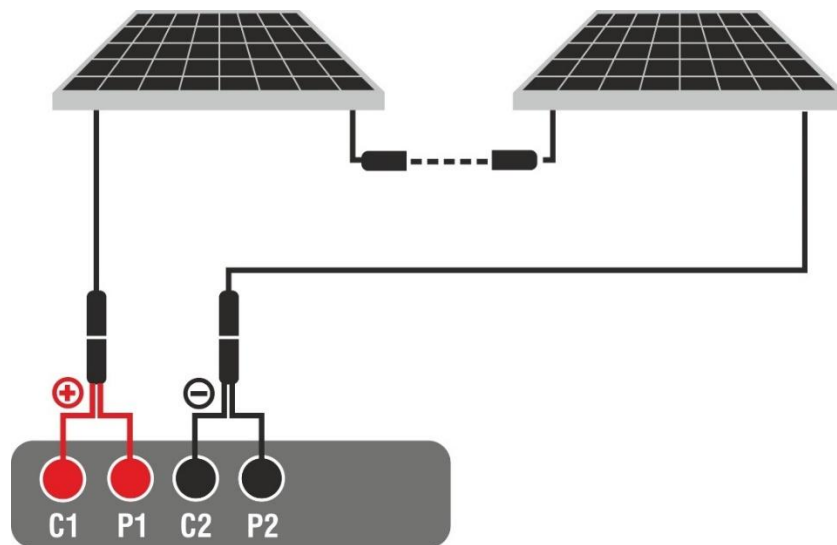

Fig. 34: Connection for I-V test without remote unit SOLAR03
3. Connect the instrument to the module/string being tested as shown in Fig. 34. In particular, connect the Negative pole of the module/string to the **P2, C2** terminals and the Positive pole from the module/string to the **P1, C1** terminals